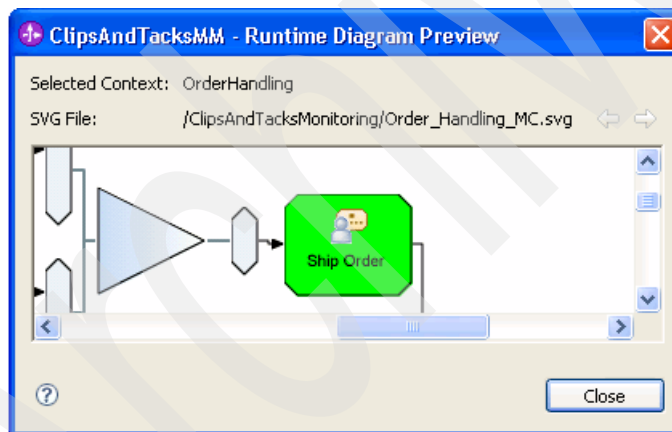

Figure 5-65 Testing the monitoring context visual model
- c. In the diagram preview window (Figure 5-65), scroll to the right to check that the task *Ship Order* has changed to green. Close the diagram preview window.